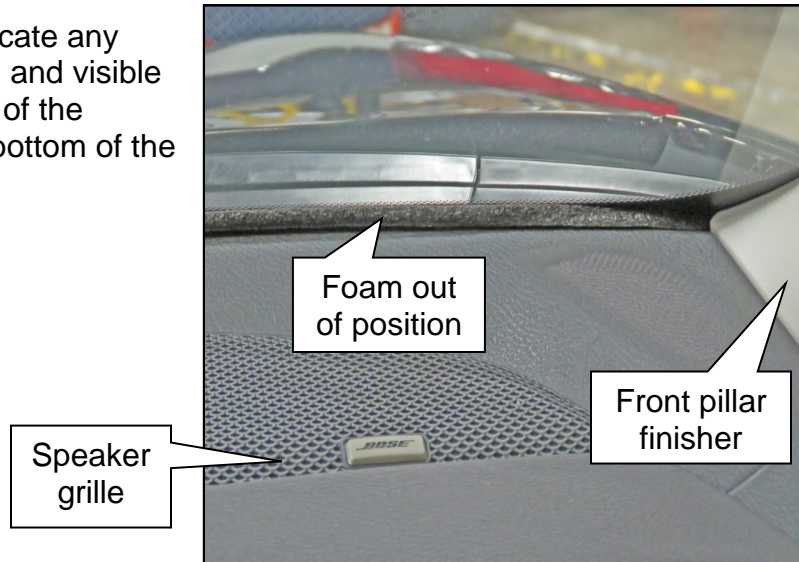

Figure 2
1. Reference Figure 2 and locate any foam that is out of position and visible between the leading edge of the instrument panel and the bottom of the windshield.